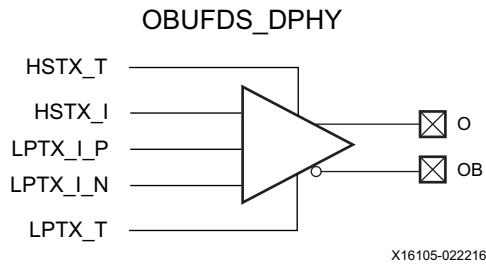

Figure 1-45: Differential Output Buffer Primitive (OBUFDS_DPHY)
The differential output buffer primitive (OBUFDS_DPHY) is only supported in the HP I/O banks in the Virtex UltraScale+, Kintex UltraScale+, and Zynq UltraScale+ devices (Figure 1-45). This UltraScale architecture specific primitive is for MIPI D-PHY transmitter implementation. The HSTX_T port is used to 3-state the MIPI D-PHY high-speed (HS) transmitter. The LPTX_T port is used to 3-state the low-power (LP) transmitter. The HSTX_I and LPTX_I(P/N) inputs are from the interconnect logic to the HS and LP transmitters,